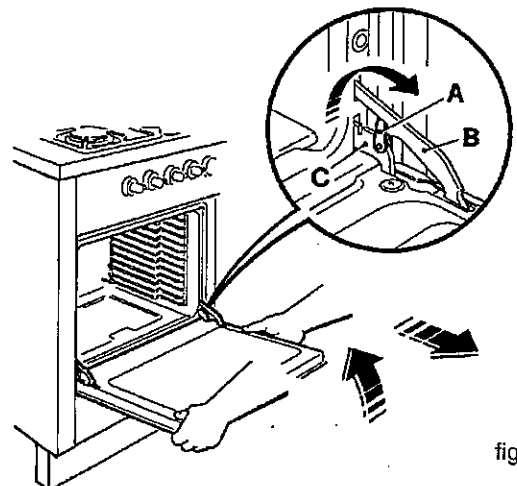

fig. 31
- As soon as the hinge is free, pull the door forwards tilting it slightly upwards to release sectors "C" and "B" (Fig. 31).